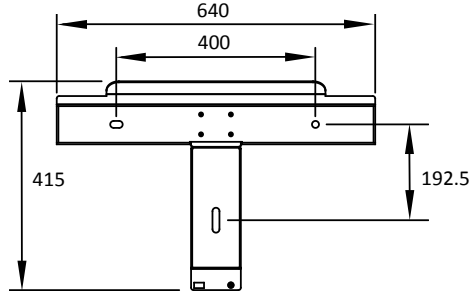

Figure 4.8 Dimensions of the mounting bracket (unit: mm)
- ① Step 1 : Position the mounting bracket onto the supporting structure. Dimensions of the mounting bracket can be seen in Figure 4.8.